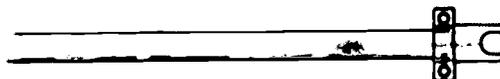

FIGURE 3.
- D. Clamp weatherhead base onto the end of the service raceway (Figure 3)